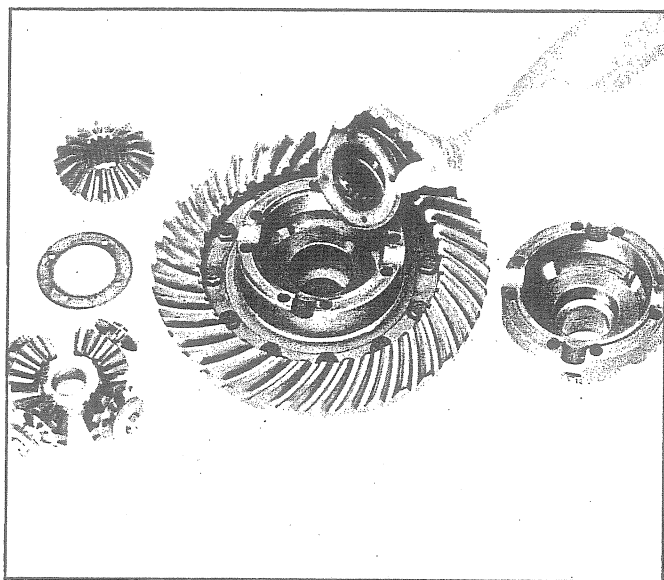

Fig. 55 - Differential (Disassembled)
15. Remove side gears, spider, pinion and thrust washers. See Fig. 55.